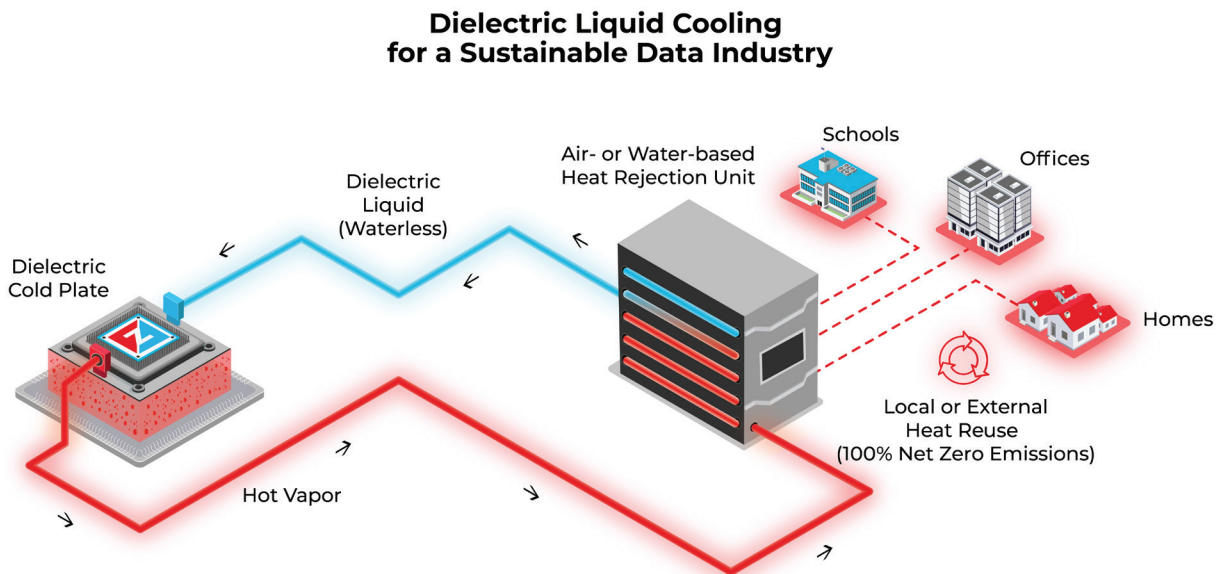

Figure 7: Local or external heat reuse for enhanced sustainability
- **Enhanced Sustainability** – Two-phase direct on-chip liquid cooling utilizes the temperature of hot vapor, ranging between 40 and 60°C (86 – 104°F), to extract heat from data center equipment. As shown in Figure 7, this heat can be expelled outside the data center or reused locally or externally through heat-reuse applications, significantly reducing the carbon footprint of the entire system and bringing data centers closer to achieving net-zero emissions.